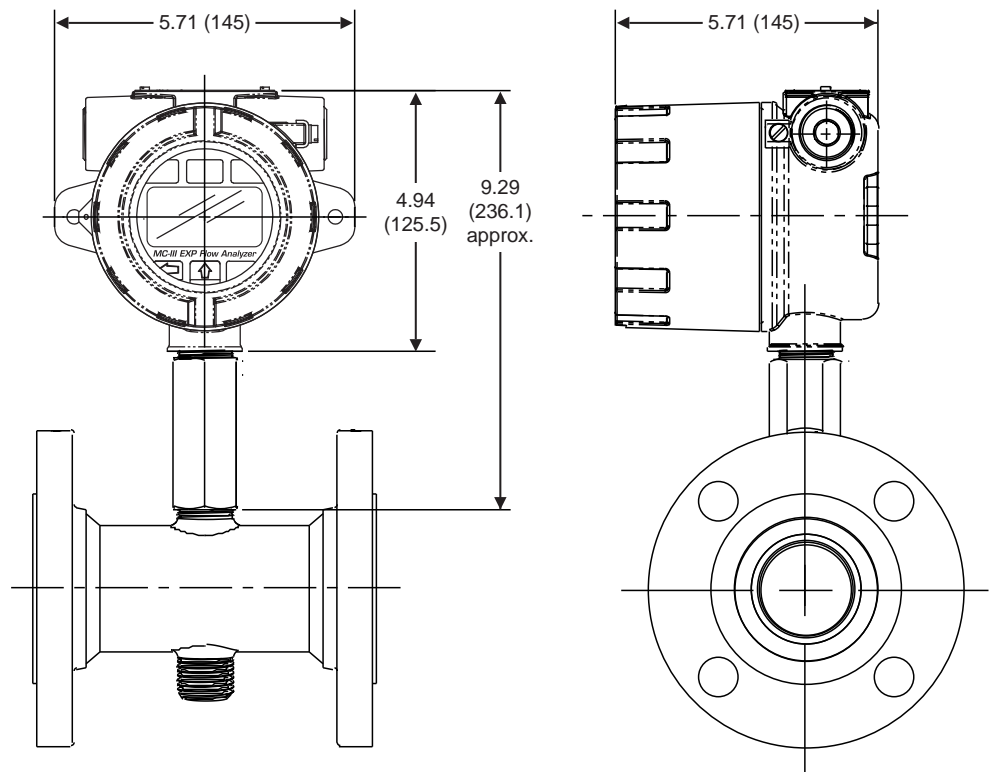

Figure 2.3—Direct mount to a Barton 7000 series flowmeter with 3/4-in. to 3/4-in. standoff tube (ATEX)
- Mount the device to a Barton 7000 Series turbine meter. A 3/4-in. to 3/4-in. stainless steel standoff tube is required (Figure 2.3, page 16). (The 3/4-in. to 1-in. reducer supplied with the Barton 7000 Series meter is not required when the standoff tube is used.)